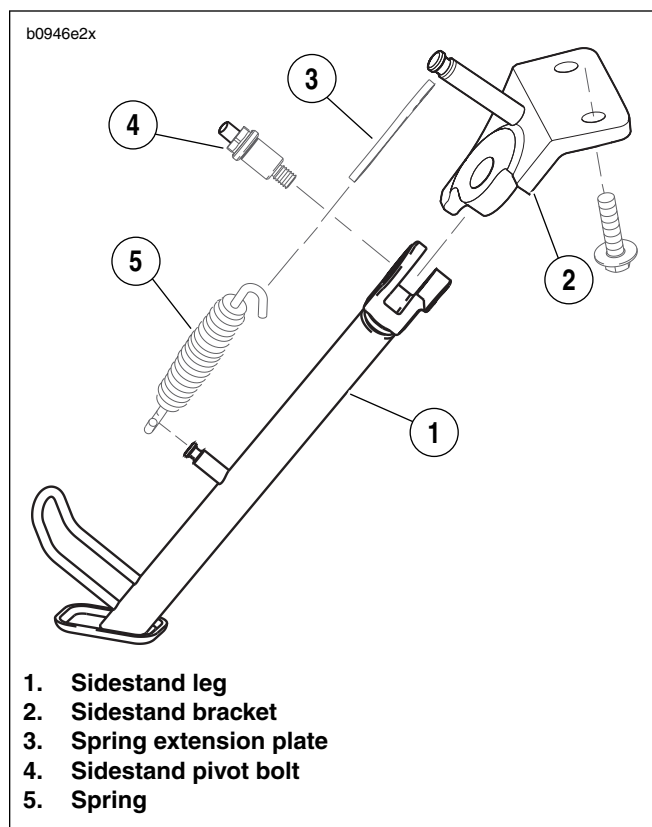

Figure 2. Sidestand Assembly
2. See Figure 2. Remove sidestand pivot bolt (4).
- b. Remove sidestand spring (5) and spring extension plate (3) using SNAP-ON SPRING TOOL (Part No. HE-52B).
- c. Remove sidestand pivot bolt (4).
- c. See Figure 2. Install sidestand pivot bolt (4) tightening to 18-20 ft-lbs (24-27 Nm).
- e. Install spring extension plate (3) and sidestand spring (5) using SNAP-ON SPRING TOOL (Part No. HE-52B).